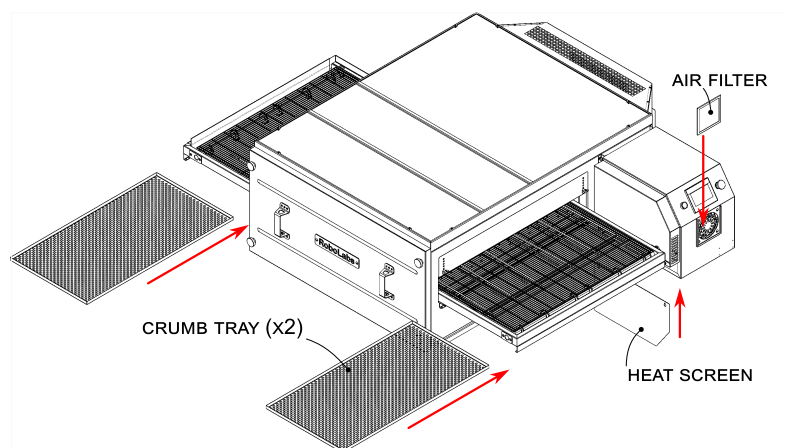

Figure 7
10. Insert **crumb trays** into the tray guide rails, see Fig. 7.